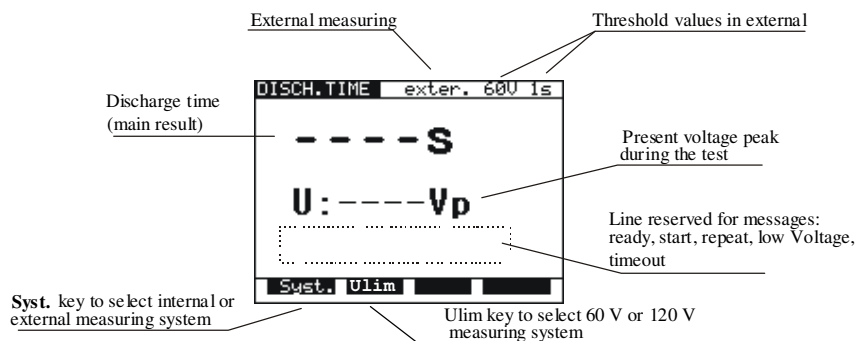

Fig. 26. Main menu in Discharge time function
- STEP 1.** Set rotary switch to **DISC.TIME** (discharge time) position. The heading according to fig.26 is displayed.